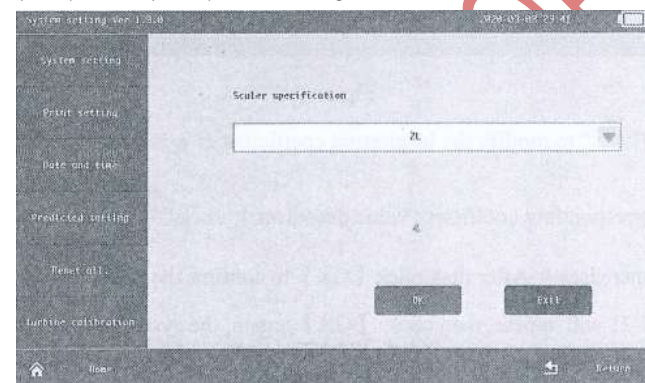

Figure 6-19
- After selecting **【Calibration of calibration syringe】**, the *interface* will display the "Scaler specification" option (2L or 3L optional), as shown in Figure 6-19.